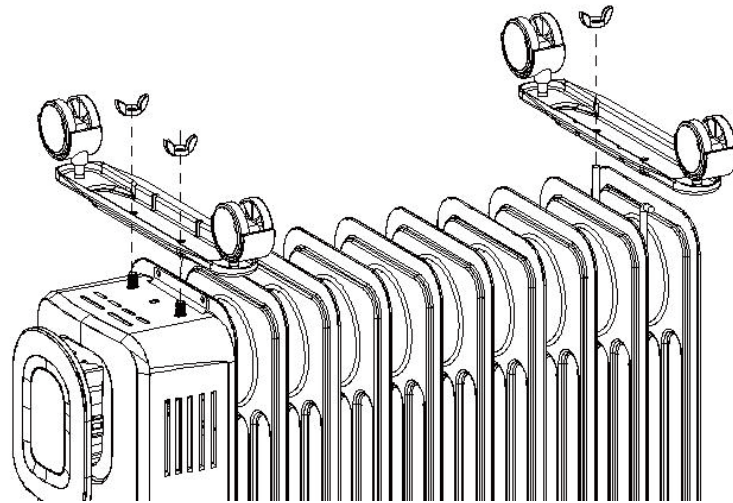

Figure 2
(2)Turn the heater upside down, position the castor board between the end fins. Attach them to the U-bolts on the heater and tighten using the wing nuts provided., shown in Figure 2;